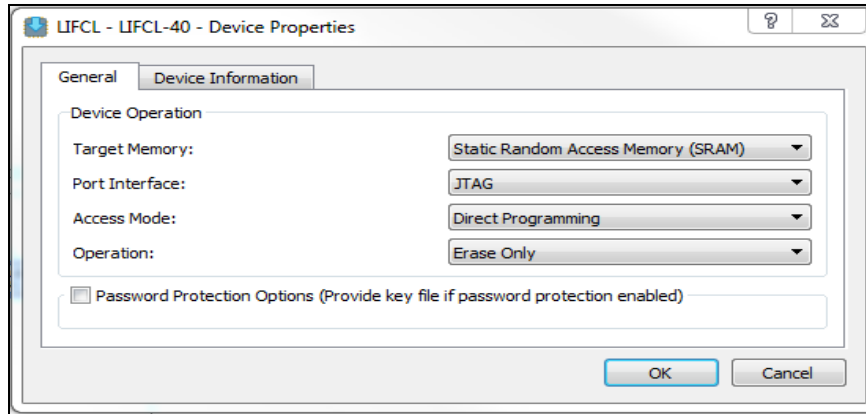

Figure 4.5. Radiant Programmer – Device Operation
4. Select JTAG for Port Interface, Direct Programming for Access Mode and Erase Only for Operation as shown in Figure 4.5.